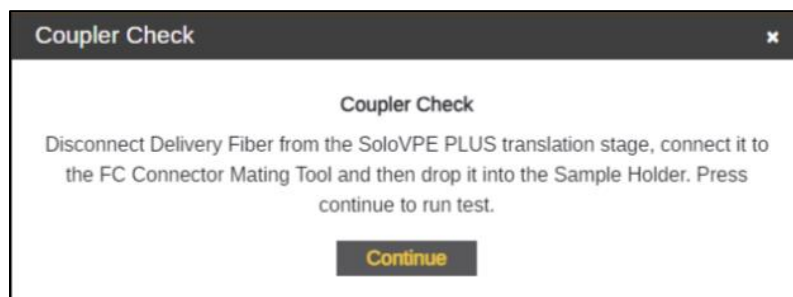
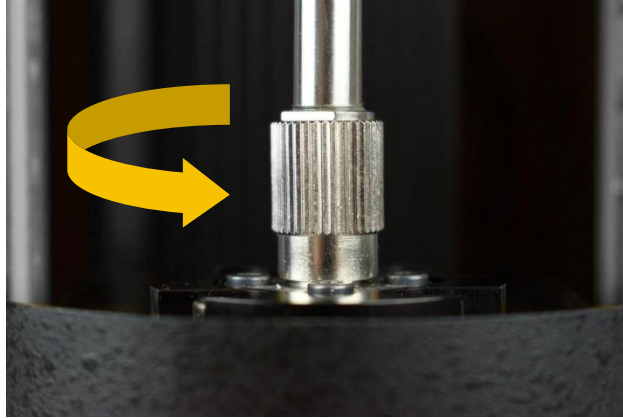
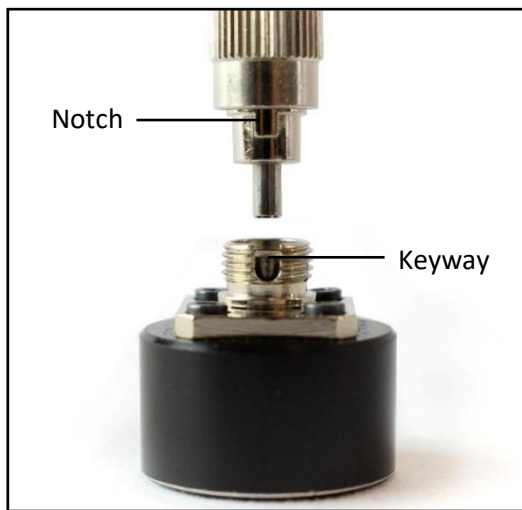

Figure 15. Coupler Check window prompt.
Figure 16. Disconnect Delivery Fiber from Translation Stage.
Figure 17. Connect Delivery Fiber to Transmission Tool.
2. A prompt will appear with instructions (see Figure 15). Follow the instructions to remove the Delivery Fiber from the Translation Stage by turning the FC connector end of the Delivery Fiber counterclockwise (see Figure 16). Attach the FC end of the Delivery Fiber to the Transmission Tool; be sure to align the notch on the Delivery Fiber to the keyway on the Transmission Tool (Figure 17).